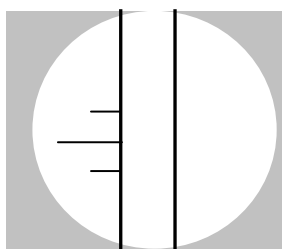

Figure 5-7 Sharp Image
2. Turn the eyepiece sleeve until the two filar lines are very sharp in the view field. Refer to Figure 5-7.